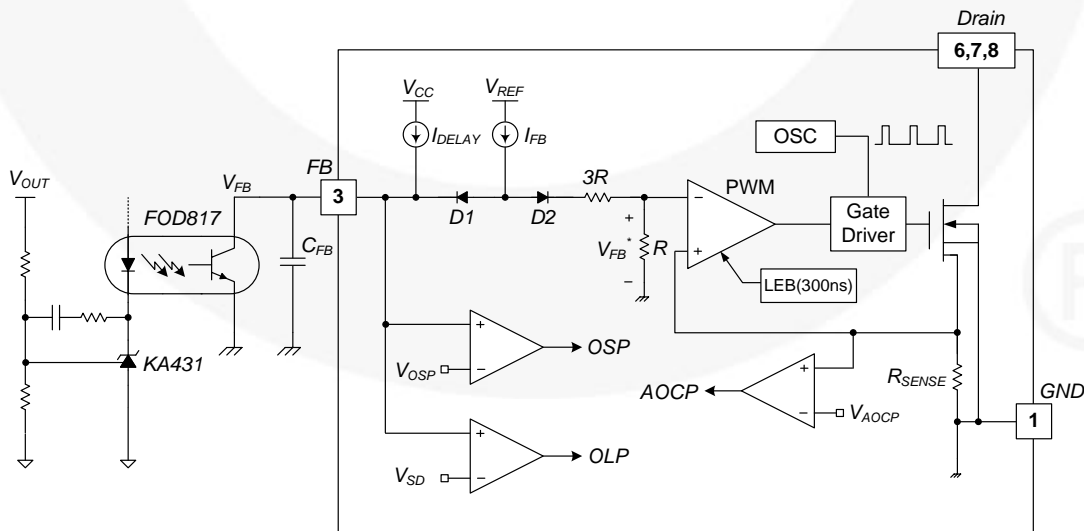

Figure 20. Pulse Width Modulation Circuit
3. Feedback Control: This device employs Current-Mode control, as shown in Figure 20. An opto-coupler (such as the FOD817) and shunt regulator (such as the KA431) are typically used to implement the feedback network. Comparing the feedback voltage with the voltage across the R_{SENSE} resistor makes it possible to control the switching duty cycle. When the reference pin voltage of the shunt regulator exceeds the internal reference voltage of 2.5 V, the opto-coupler LED current increases, pulling down the feedback voltage and reducing drain current. This typically occurs when the input voltage is increased or the output load is decreased.
3.1 Pulse-by-Pulse Current Limit: Because Current-Mode control is employed, the peak current through the SenseFET is limited by the inverting input of PWM comparator (V_{FB}^*), as shown in Figure 20. Assuming that the 90 μ A current source flows only through the internal resistor ($3R + R = 25 \text{ k}\Omega$), the cathode voltage of diode D2 is about 2.8 V. Since D1 is blocked when the feedback voltage (V_{FB}) exceeds 2.84 V, the maximum voltage of the cathode of D2 is clamped at this voltage. Therefore, the peak value of the current through the SenseFET is limited.